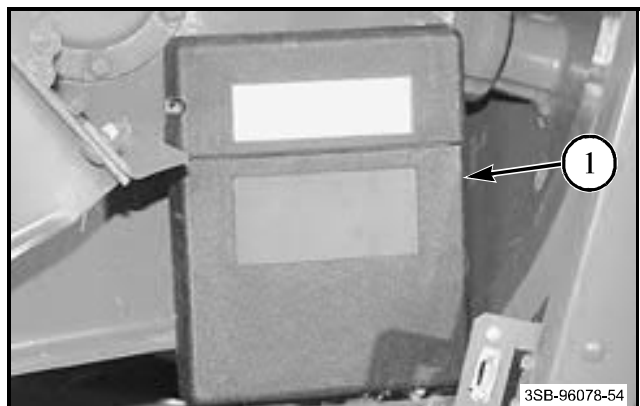

FIG. 3
FIG. 3: The Operator's Manual container (1) is located under the access panel on the right-hand side of the baler. Keep the Operator's Manual with the baler at all times. Put the engine operation and maintenance manual in the Operator's Manual container.